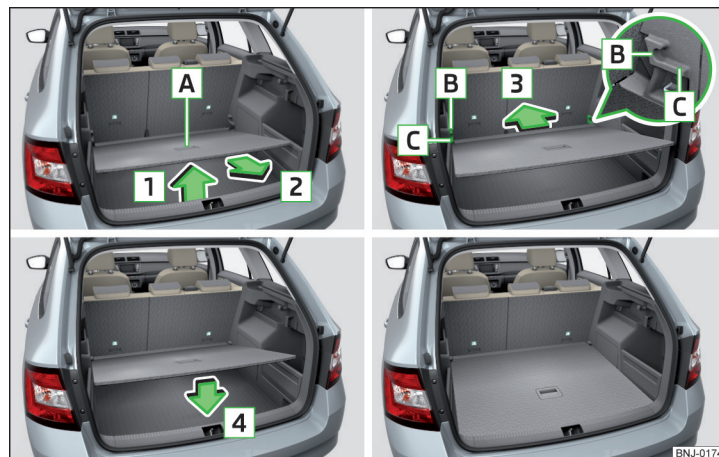

Fig. 91 Set the variable loading floor to the upper position
- » Grasp the variable loading floor at handle **A** » Fig. 91.